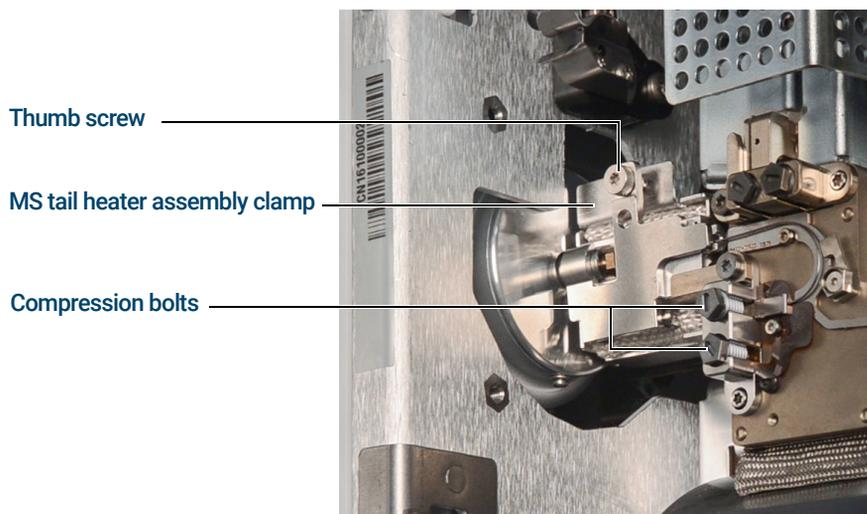

Figure 15. MS tail heater assembly clamp closed
- 9 Using the Intuvo torque driver, remove the compression bolt that secures the 9000 GC/MS Tail click and run bus connection. Also remove the bolt from the empty bus connection. (See Figure 15.)